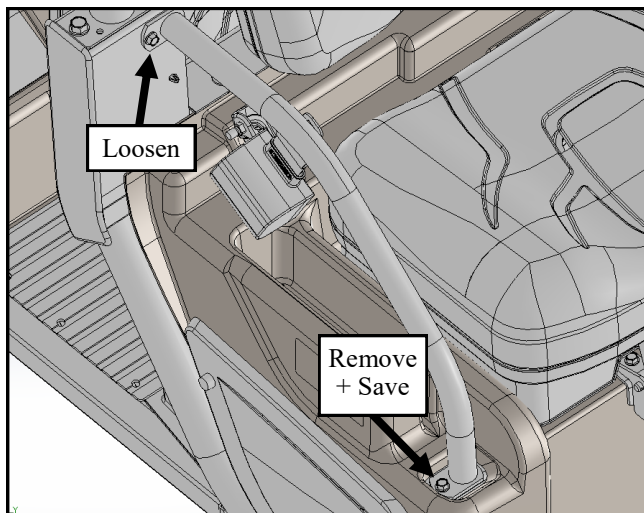

Fig. 2.1 (Right Side OE Bolt Locations)
- 2.1 Loosen right side upper hip restraint OE bolt ~3/16" to aid in removing/installing the lower bolt. Then remove and save the lower hip restraint OE bolt. See **Fig. 2.1**.